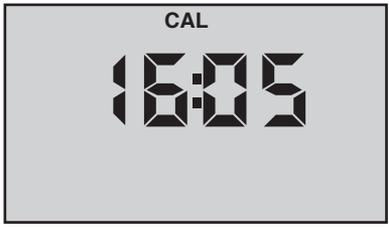

Figure 11
Example shown in Figure 11, 16:05 equals 4:05 PM.
3. Press  to initiate. "CAL" will be displayed along with the time (see Figure 11).